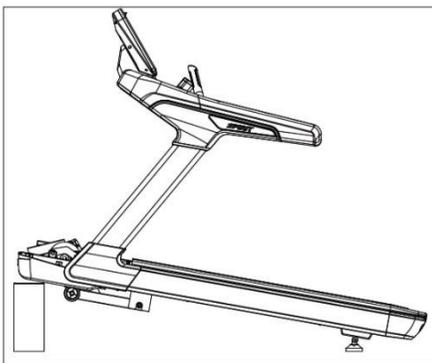
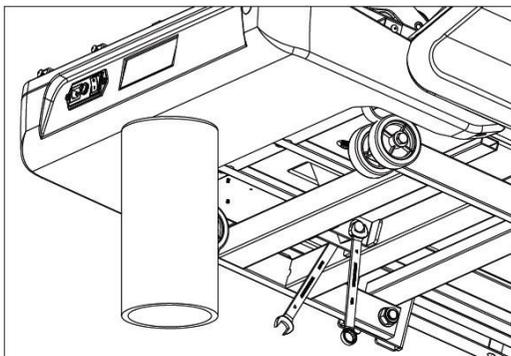
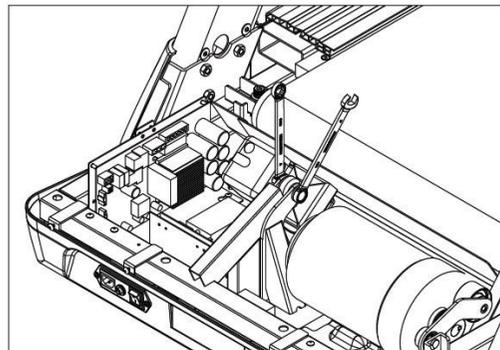

Figure 4.7.1
Figure 4.7.2
Figure 4.7.3
- 6) As shown in Figure 4.7.1, Figure 4.7.2, Figure 4.7.3, use e.g. a paper tube to support the device on the front side. Use a wrench to remove the incline motor, which is fixed on main frame.